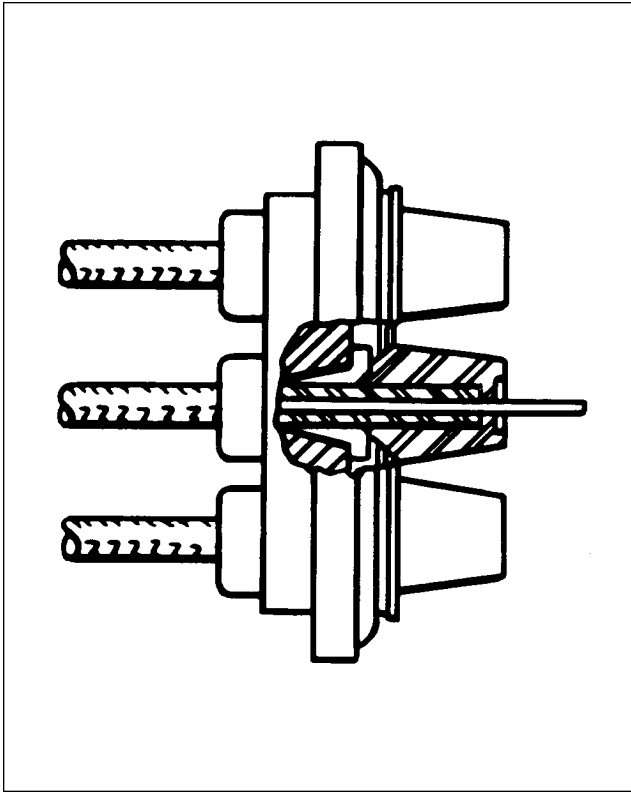
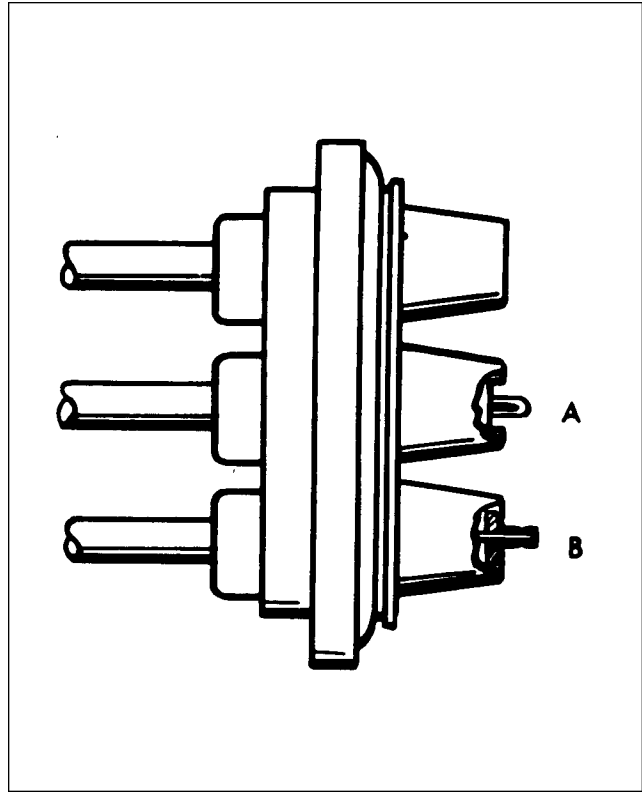

Figure 8-26. Lead Assembly Installed in Grommet
Figure 8-27. Wire Doubled Over For Installation of Eyelet
15. Cut the wire 3/8 inch from the top of the grommet outlet. (See Figure 8-26.) Double the wire over as shown in A of Figure 8-27. Slide the eyelet over the doubled wire until it is firmly seated in the recess of the grommet outlet.
16. Using a suitable crimping tool or equivalent, crimp the eyelet to the wire. Approximately 1/32 inch of wire should extend from the end of the eyelet after crimping. See B of Figure 8-27.